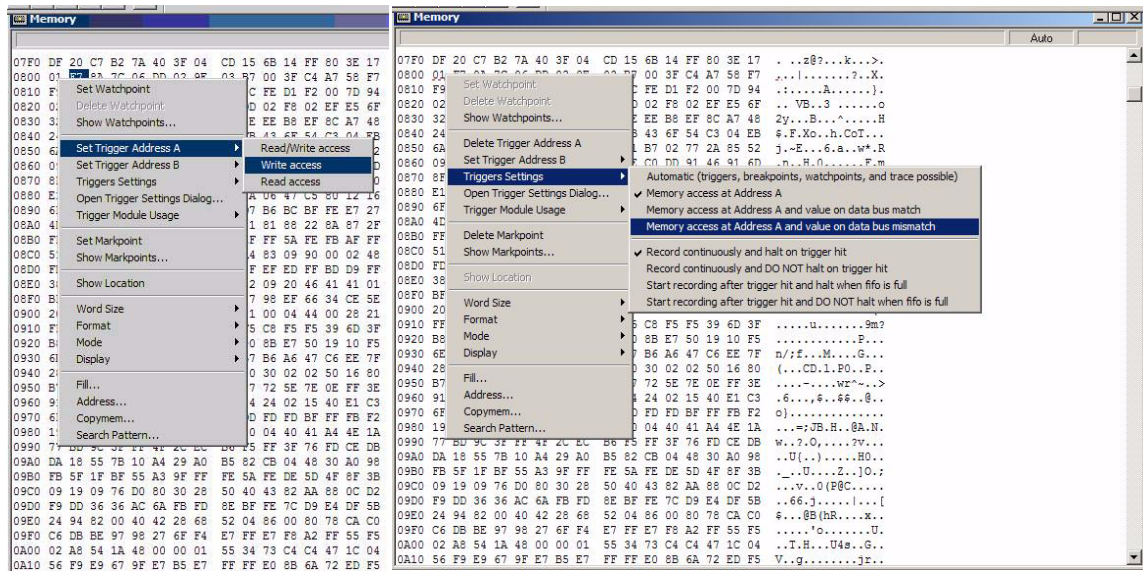

Figure 16. Setting 16-bit Address
- When setting an 8-bit data trigger, you must select the type of memory access (read/write). Figure 16 illustrates how to select the 16-bit address: right click on the desired memory location in the memory map window by selecting, set trigger address A then write access. The trigger is marked by a dashed underline.